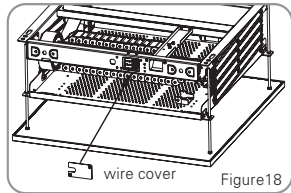

Figure18
- * External IR/RF remote control(Optional, External Slot in the back of Lift)(Figure 18 –20)
12. Before contacting the power cable of projector lift, please take out the wire cover in the back of lift (Figure 18). Then choose the control option and connect the controlling wires to terminals(Figure 19-20). For humanization, link the power after fixing the controller of cables on a place for easy using.